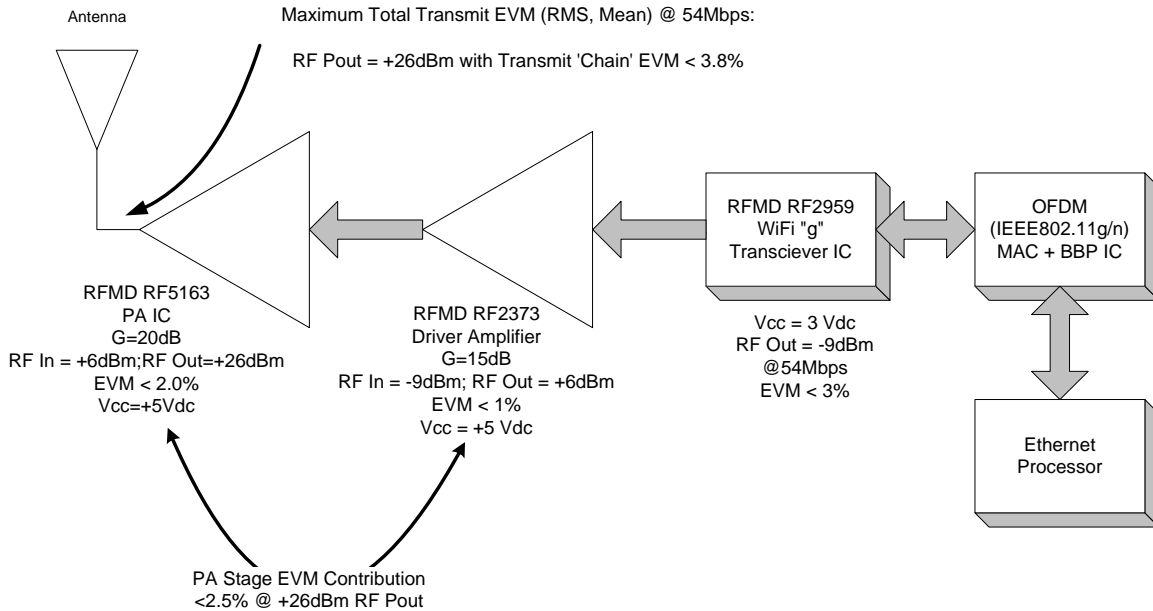

Figure 1. IEEE802.11g/n AP Transmitter Major Component Line-Up
Figure 1 below shows the major component line-up for an ultra linear fixed application (e.g., an access point (AP) transmitter capable of producing +26dBm RF POUT with an amplifier stage (driver + final stage power amplifier IC, RF2373 + RF5163) EVM contribution of < 2.5% EVM, RMS (mean).